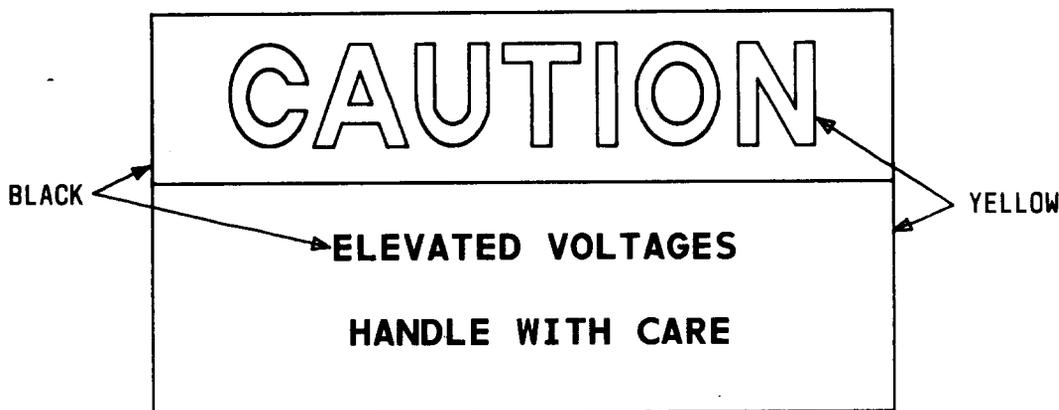

Fig. 1—Typical Upper Voltage Label
4.01 The recommendations in Part 2 should be followed at all times. Craft persons must be especially certain to heed these measures if a yellow and black label with words such as "CAUTION, ELEVATED VOLTAGES, HANDLE WITH CARE" is present (Fig. 1). This label indicates a circuit in the upper range of the normal system voltages and serves as a reminder that these precautions are especially necessary.